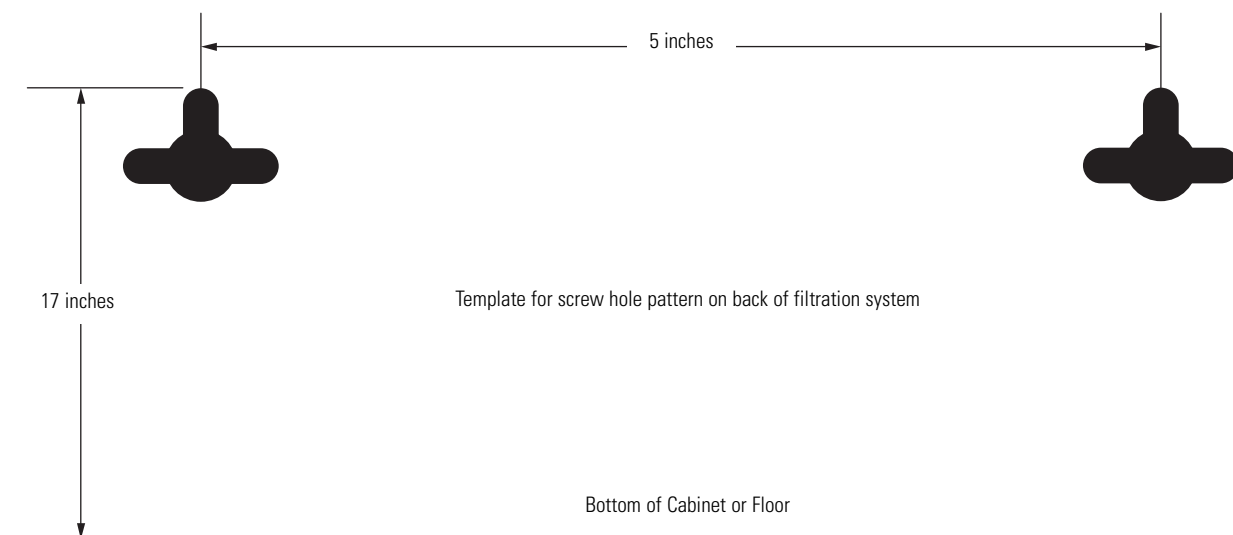

Fig. 4
2. The top of the template openings should be placed a minimum of 17 inches above the bottom of the cabinet or floor where the system is to be mounted (Fig. 4 and 5). **NOTE:** Any distance lower may result in filter canisters interfering with the floor when removed.